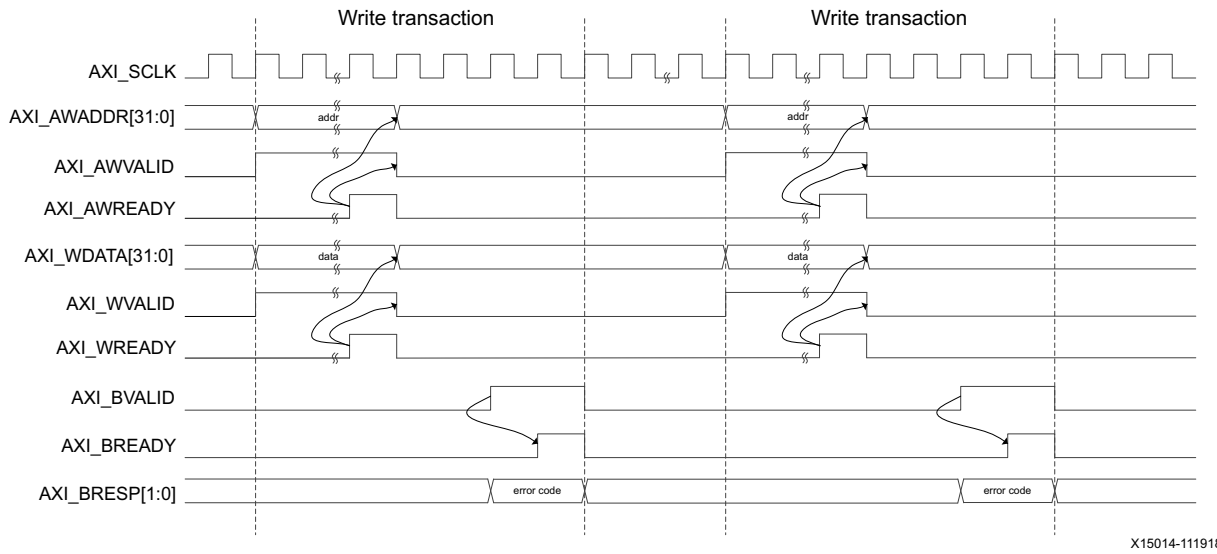

Figure 5-17: AXI4-Lite User Side Write Transaction with Invalid Write Address
- Invalid Write transactions (Figure 5-17)